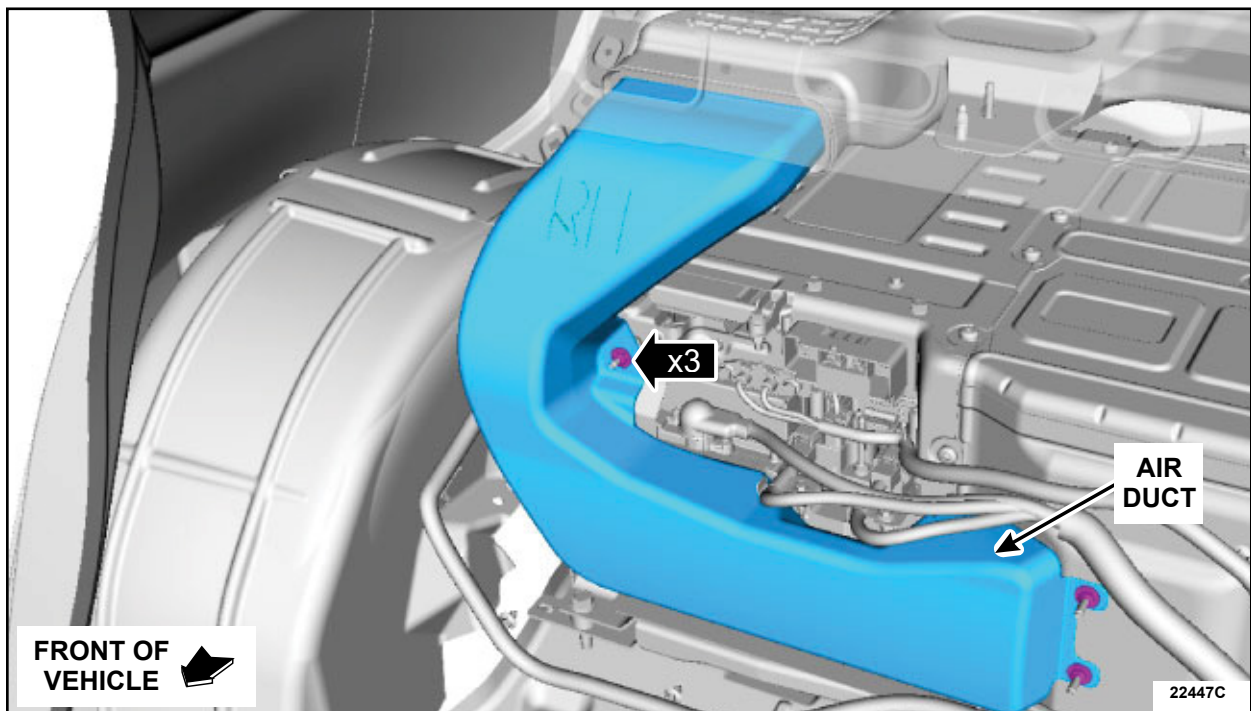

FIGURE 20
22. Install the air duct and the retainers. See Figure 20.